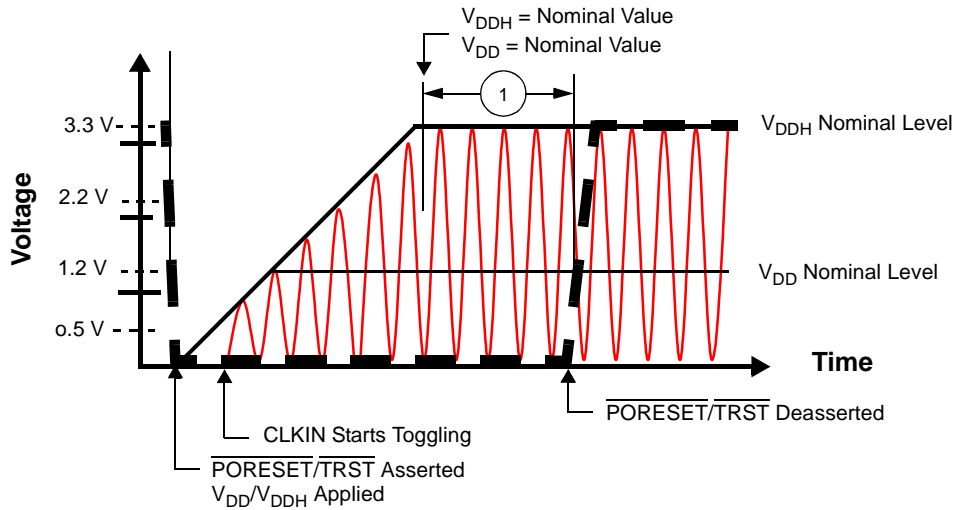

Figure 6. Start-Up Sequence:  $V_{DD}$  and  $V_{DDH}$  Raised Together
- CLKIN should start toggling at least 16 cycles (starting after  $V_{DDH}$  reaches its nominal level) before  $\overline{\text{PORESET}}$  deassertion to guarantee correct device operation (see **Figure 6** and **Figure 7**).
The following figures show acceptable start-up sequence examples. **Figure 6** shows a sequence in which  $V_{DD}$  and  $V_{DDH}$  are raised together. **Figure 7** shows a sequence in which  $V_{DDH}$  is raised after  $V_{DD}$  and CLKIN begins to toggle as  $V_{DDH}$  rises.